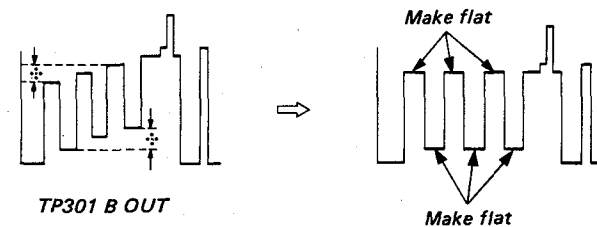

Fig. 21-2
7. Adjust RV5 of BB board so that the output waveform becomes flat as shown in Fig. 21-2.